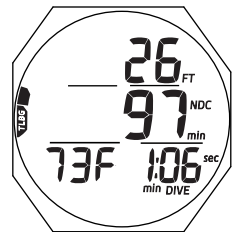

Fig. 112 - FREE DIVE MAIN
**FREE DIVE MAIN**, information includes (Fig. 112) -